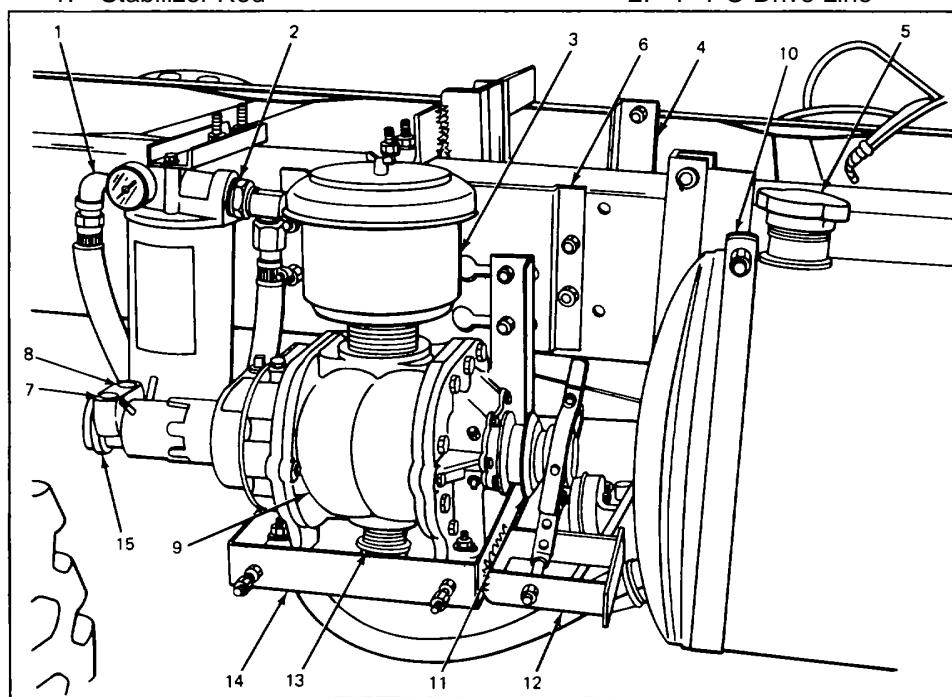

Figure 42
Mount blower as seen in Fig. 42 to blower mounting frame with four (4) 3/8 X 1 1/2 bolts such that eye bolts can be used to tighten blower drive belt. See Fig. 43 also. Slip blower drive clutch onto blower input shaft and tighten clutch set screw. Next attach blower frame to blower mounting bracket with four (4) 1/2 X 1 1/4 bolts, centering frame on bracket (F. 42 & 43). Bring blower, frame and bracket up against chassis frame as seen in Fig. 42, being careful to align blower drive pulley with P.T.O. drive line pulley. Mark location of four (4) blower mounting bracket holes on truck chassis, remove blower and drill four (4) 17/32 holes in chassis frame at marked locations.
Slip blower drive belt onto drive clutch and drive line pulley. Attach blower bracket to chassis with four (4) 1/2 X 1 1/4 bolts and use lateral adjustment in bracket to make final alignment of P.T.O. drive line pulley and blower drive pulley. At this time tighten all blower mounting frame and bracket bolts. Finally weld blower clutch anchor to mounting frame (Fig. 42), install inlet air filter and discharge elbow connector.
A completed hydraulic reservoir mounting can be seen in F. 42 & 44. To complete mounting, first remove reservoir from shipping skid and locate mounting bracket on chassis frame to give adequate blower drive clutch and chassis clearance (Fig. 42). Attach mounting bracket to chassis frame using 5/8" "Hook" bolts on front bracket and two (2) 1/2 X 5 bolts with channel clips on rear bracket (Fig. 44). Install suction line tee, nipple, thermo switch, breather, thermometer and oil sight glass as seen Fig. 45.
Attach filter element to mounting bracket with two (2) 5/16 X 1 bolts and place bracket in bench vise. Install suction and discharge reducing bushings and elbows (F. 42 & 45). Locate filter on chassis frame (Fig. 42) and attach with two (2) 1/2 X 12" bolts and mounting clips